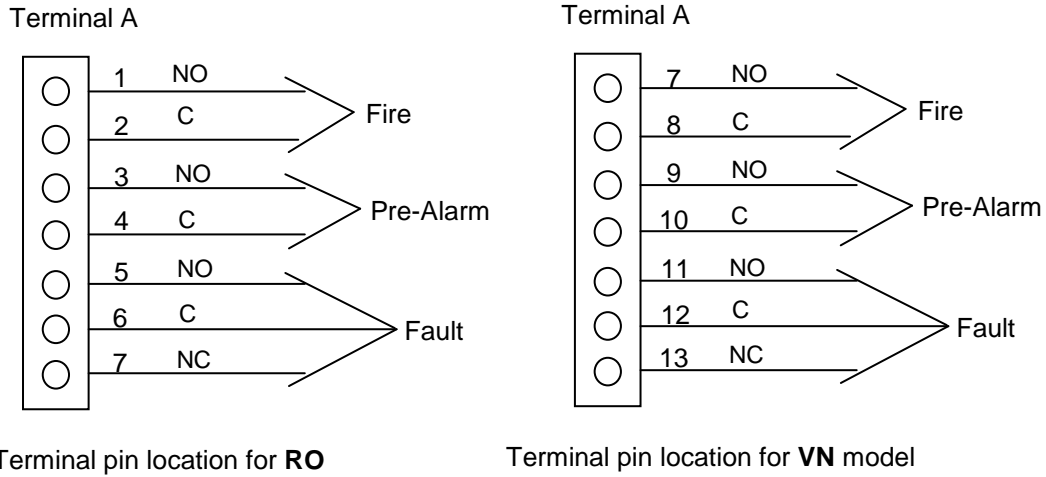

Figure 13 Wire Connections Details for Relays
- b) Connect the relay wires to the terminals as per Figure 13 and your site requirements.